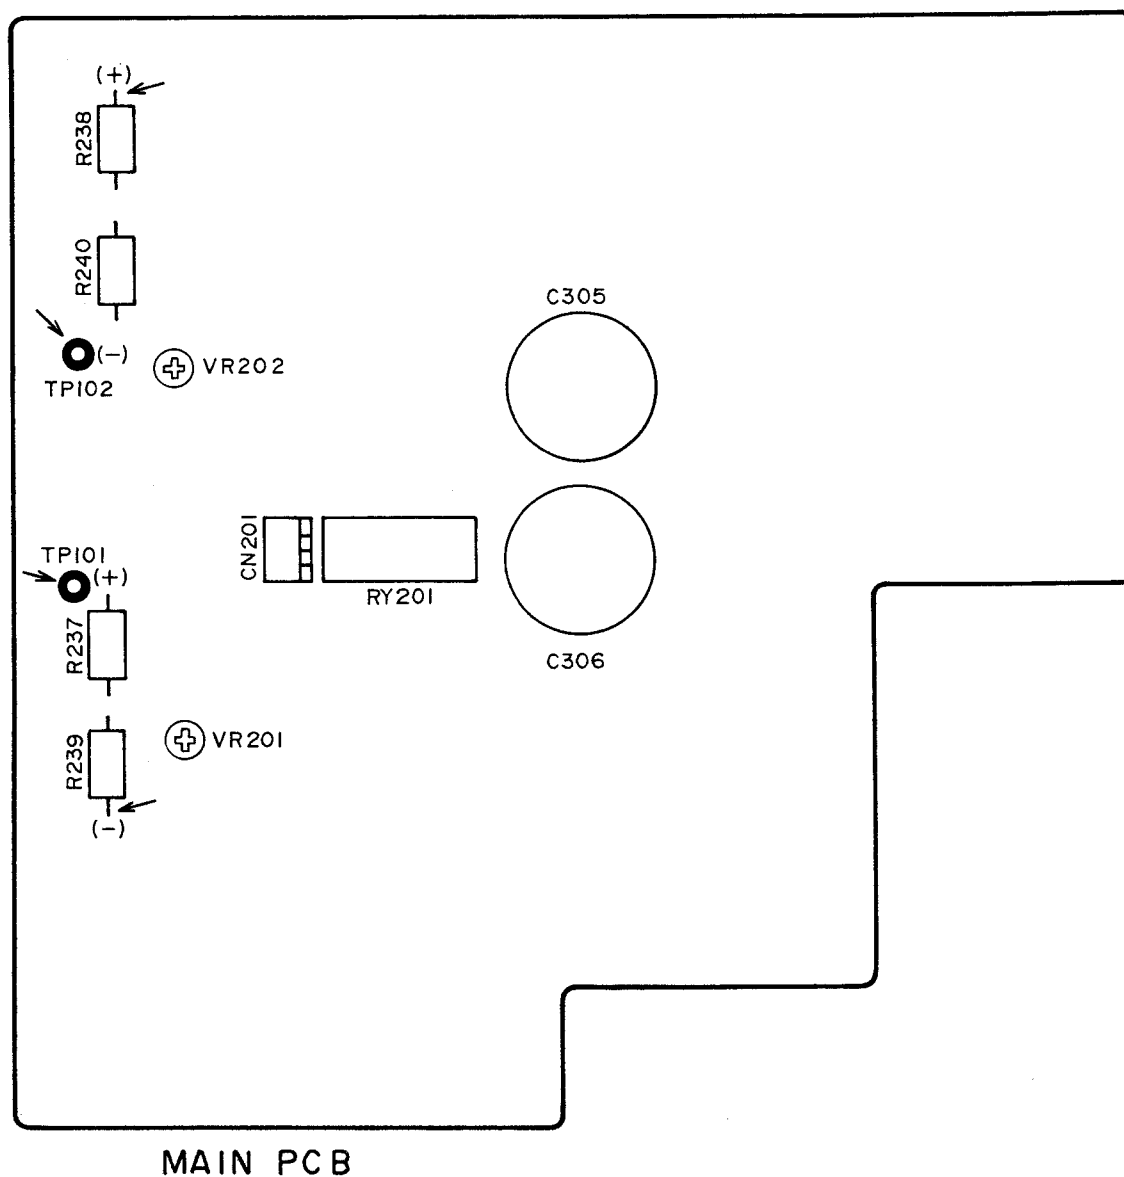

Fig. 3-1 Adjustment points
- 2) Connect the DC digital voltmeter between R239 and TP101 (L-ch) / R238 and TP102 (R-ch) as shown in Fig.3-1.